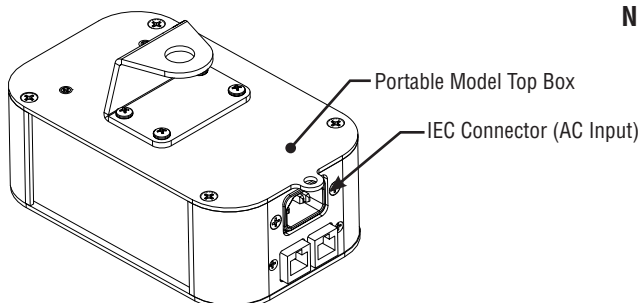

Figure 9: IEC Connector - Portable Models
Step 2. As illustrated in **Figure 9**, position AC input cable in direct relation to the IEC connector on the side luminaire top box assembly.